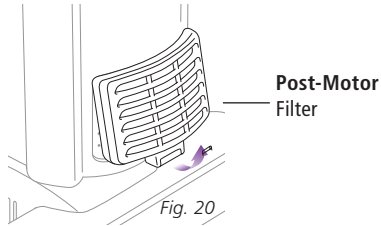

Fig. 20
- 1 Remove the filter cover from the front of the vacuum by pulling up on the tab and pulling the cover away from the vacuum. (Fig. 20)